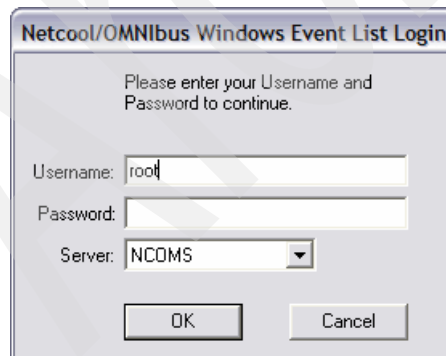

Figure 4-8 IBM Tivoli Netcool/OMNIBus Windows Event List login window
8. Launch the event list by selecting **Start** → **All Programs** → **Netcool Suite** → **Event List** and log into the ObjectServer, as shown in Figure 4-8.